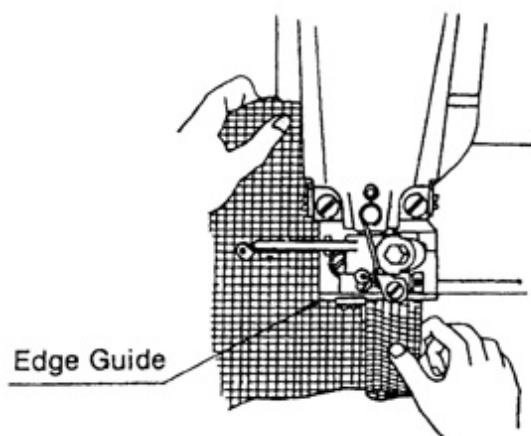

Fig. 13
6. Inserting the Work Piece and Starting to Sew (Figs. 13—14)